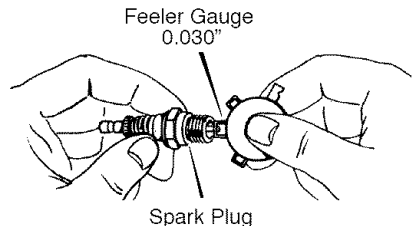

Figure 11
2. Check the **spark plug** gap with a **feeler gauge** and reset gap to 0.30" if necessary. See Figure 11.